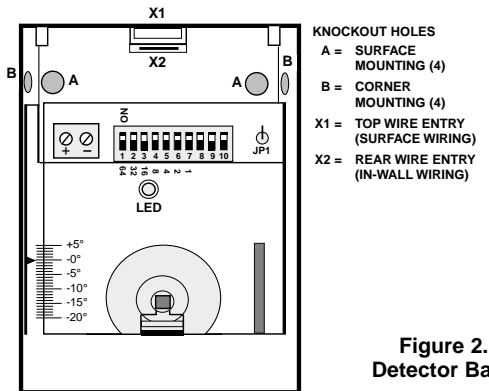

Figure 2. Detector Base
2. Refer to Figure 2. Knockout holes "A" in the base are for normal surface mounting on a wall (slide PC board up for access to bottom holes, down for access to top holes). For corner mounting, see **Corner Mounting** section. Also break out the desired wire entry hole at this time (marked X1 or X2 in Fig. 2).